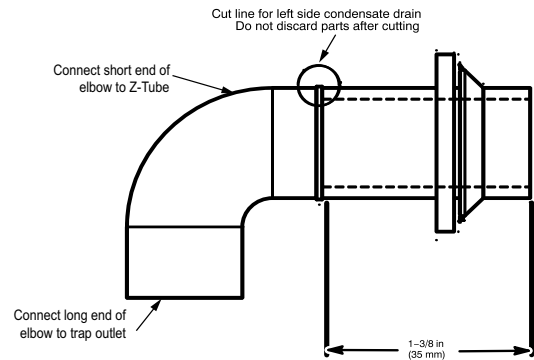

Fig. 17 – Modify Rubber Drain Elbow
- The Z-pipe is connected to the condensate trap and the outside of the furnace by modifying the formed rubber drain elbow as shown in Fig. 17.
- Remove the formed grommet from the rubber drain elbow by cutting the elbow along the vertical line located about 1-3/8 in. (35 mm) away from the formed grommet. See Fig. 17. **DO NOT DISCARD THE FORMED GROMMET OR THE RUBBER ELBOW.** Both of these pieces will be used.
TIP FROM CONTRACTORS: When installing the furnace horizontally, use the entire drain elbow (that is, do **NOT** cut as shown in Fig. 17) to connect the trap to the drain line. This helps to prevent bumps and shocks to the drain line from damaging the furnace drain trap. Avoid misalignment of the drain pipe which may cause kinks in the elbow.